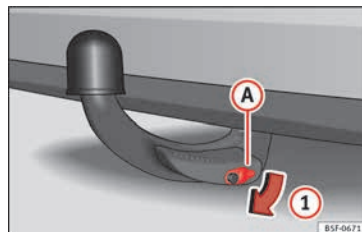

Fig. 227 Removing the lock cover
- Remove cover ① from the lock in the direction of arrow ① » Fig. 227.